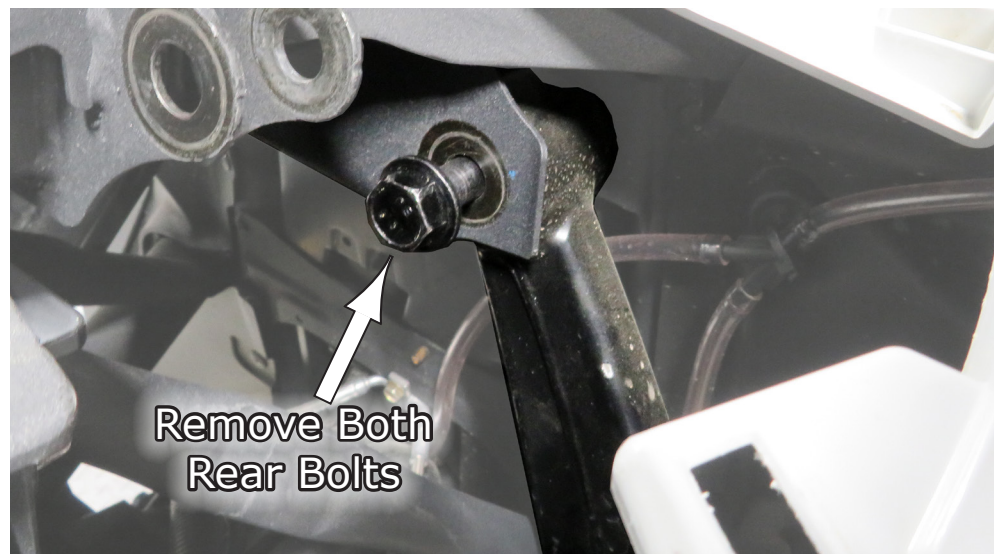

Fig.22
22. Now you are ready to install the **Upper Rear Bracket**. Remove the two (2) bolts located just behind the bracket you just put on as shown in **Fig.22**. Other bolt is on opposite side.